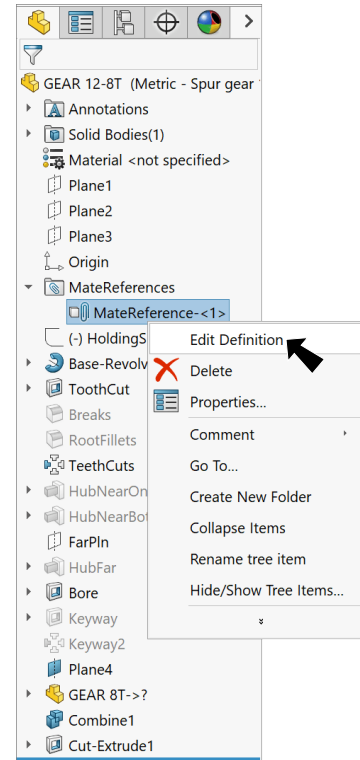

Fig. 16
Step 1. Expand **MateReferences** folder in the Feature Manager, right click **MateReference** and click **Edit Definition** from menu, **Fig. 16**.